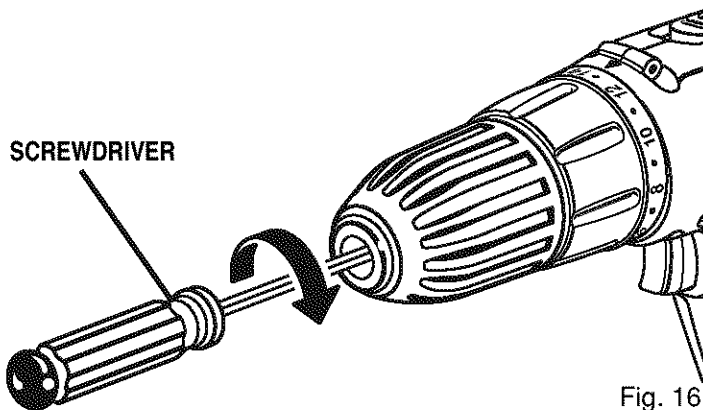

Fig. 16
- Open chuck jaws and remove hex key. Remove the chuck screw by turning it in a clockwise direction. See Figure 16.